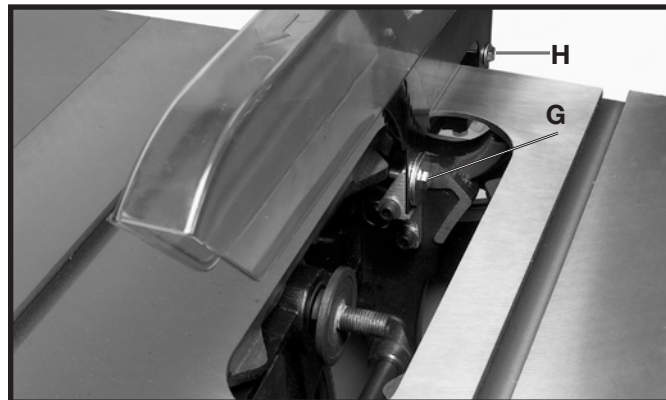
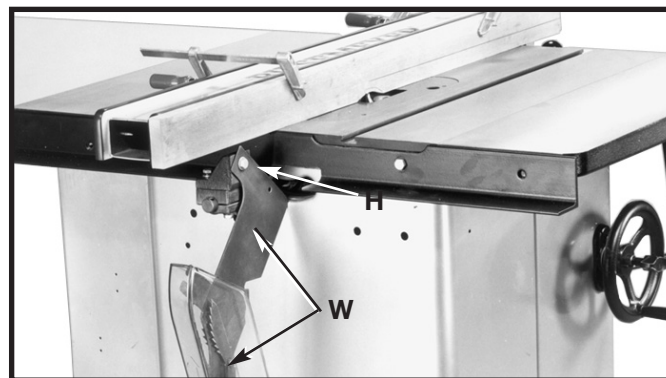

Fig. 65
Fig. 66
⚠ CAUTION FOR CERTAIN CUTTING OPERATIONS (DADOING AND MOULDING) WHERE THE WORKPIECE IS NOT CUT COMPLETELY THROUGH, THE BLADE GUARD AND SPLITTER ASSEMBLY CANNOT BE USED. LOOSEN SCREWS (G) AND (H) FIG. 65. LIFT UP AND SWING BLADE GUARD AND SPLITTER ASSEMBLY (W) FIG. 66 TO THE REAR OF THE SAW AND RETIGHTEN (H).